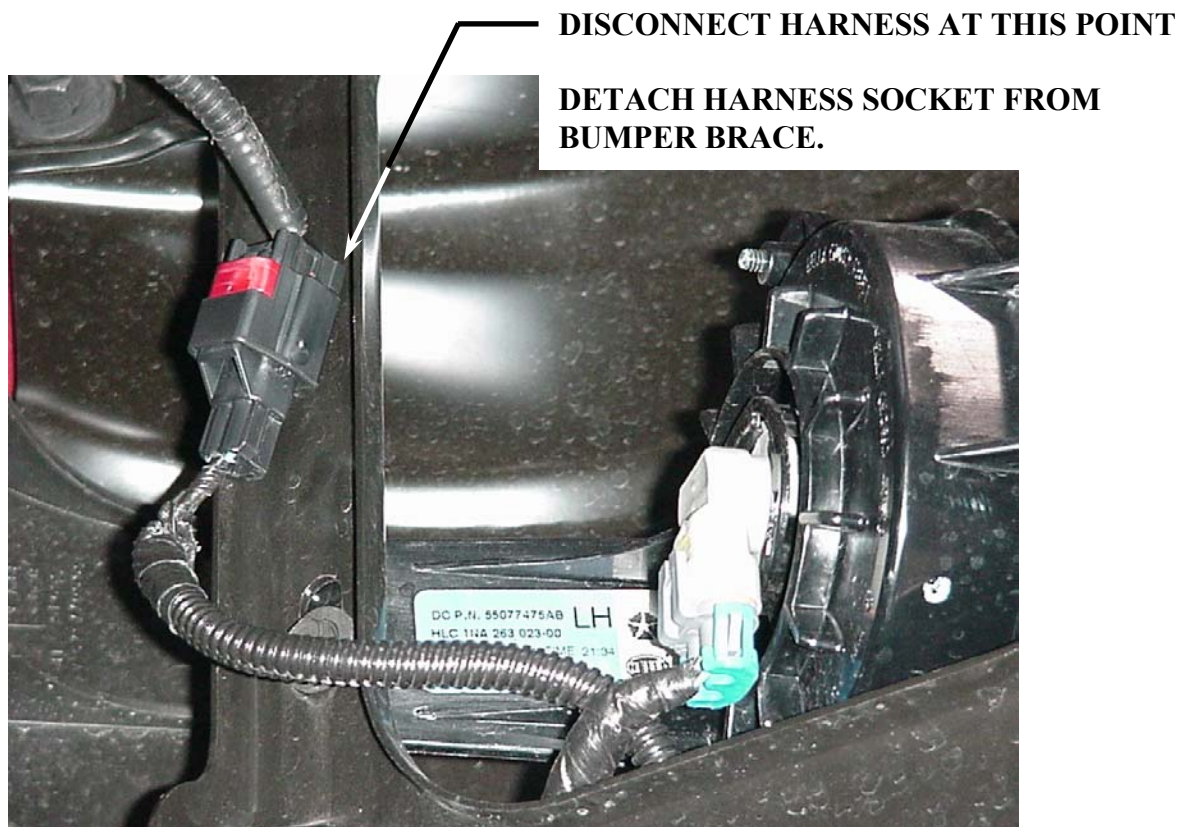
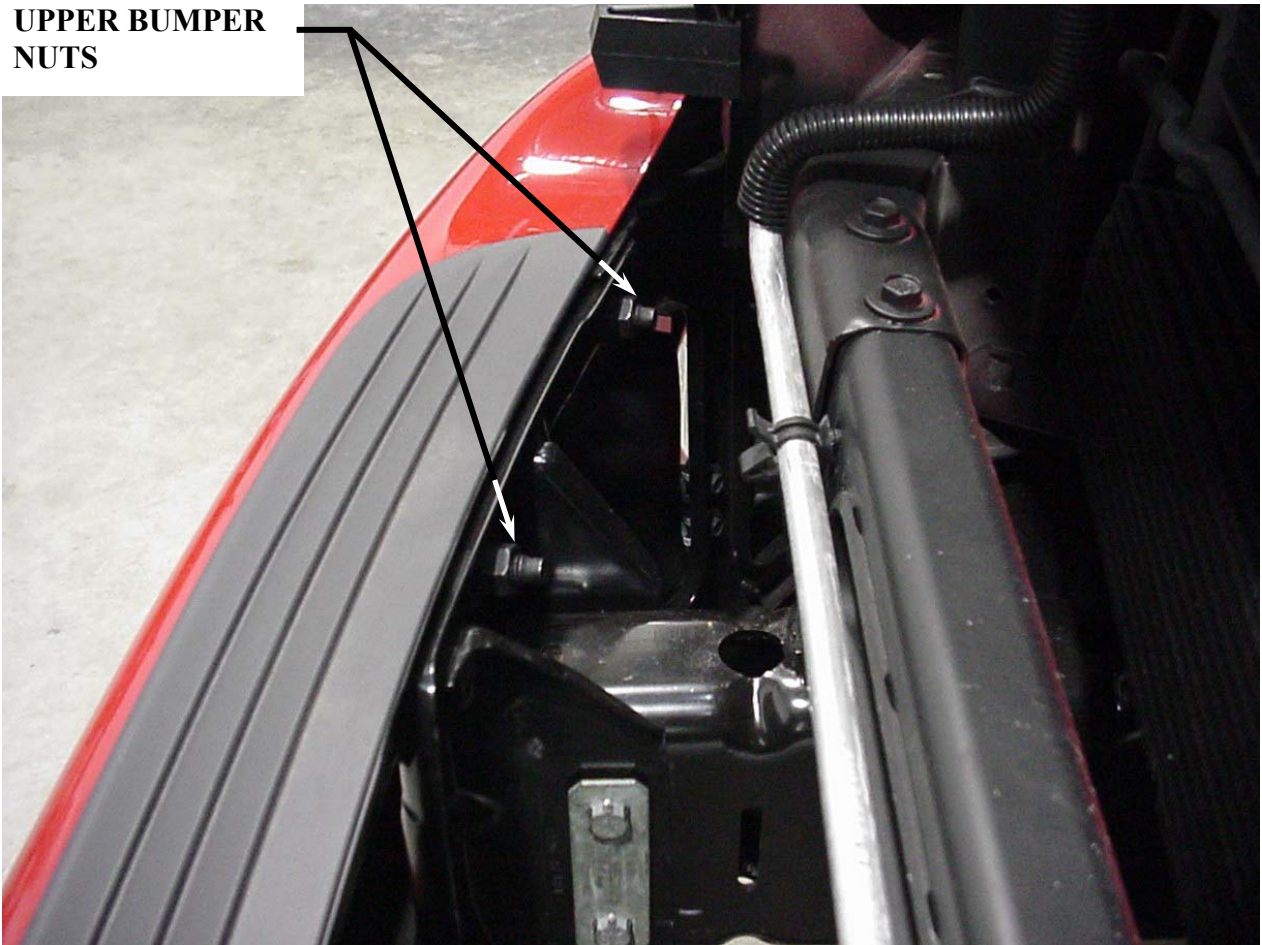

Figure 4
Figure 5
2. Remove the bumper. **Note:** If your truck is equipped with factory lights in the bumper the wiring harness (located behind bumper, drivers side) will need to be disconnected before bumper is removed. See **Figure 4**. Remove the eight nuts securing the bumper, (four nuts per side), **Figure 5**. **Figure 5** shows the upper two nuts on the passenger side, the lower two nuts are located directly below and can be accessed from under the bumper.